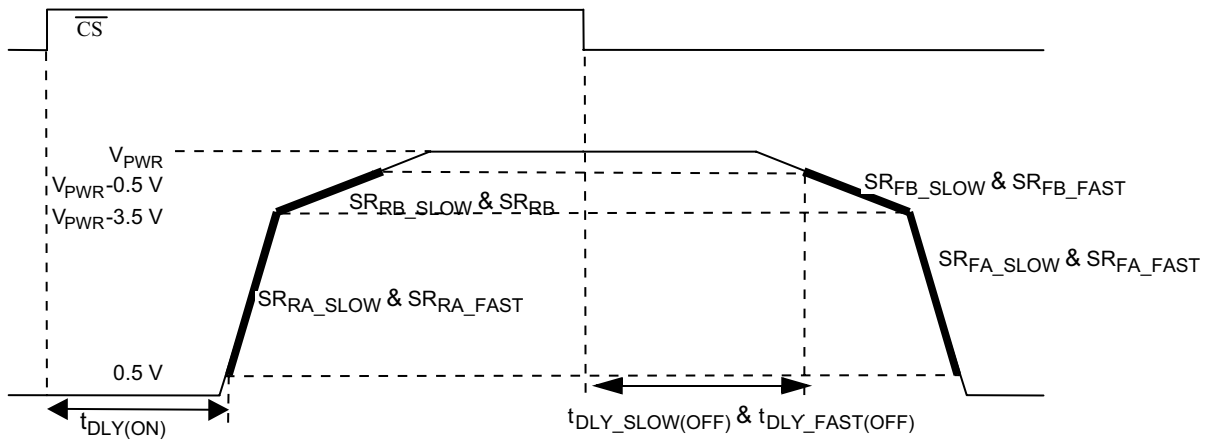

Figure 4. Output Slew Rate and Time Delays
19. Rise and Fall Slew Rates A measured across a 5.0 Ω resistive load at high-side output = 0.5 V to VPWR-3.5 V (see Figure 4, page 13). These parameters are guaranteed by process monitoring.
20. Rise and Fall Slew Rates B measured across a 5.0 Ω resistive load at high-side output = 0.5 V to VPWR-3.5 V (see Figure 4). These parameters are guaranteed by process monitoring.